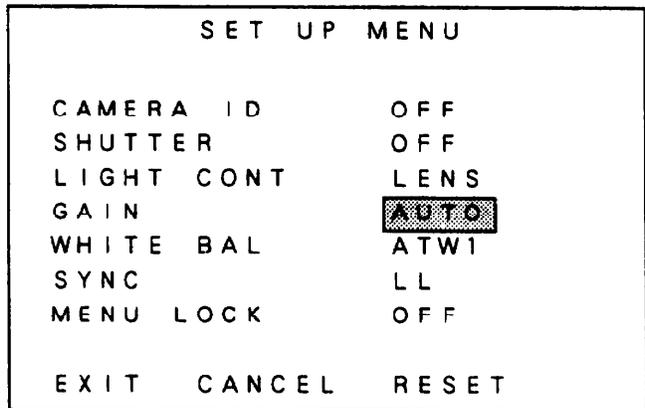

Fig. 7-15
- (1) Move the cursor to the position shown in Fig. 7-15. Using the R and L switches, enter AUTO, LOW, MID or HIGH in the GAIN item.
- (2) The AUTO entry keeps on the AGC function. The LOW, MID and HIGH entries provide for fixed gains.